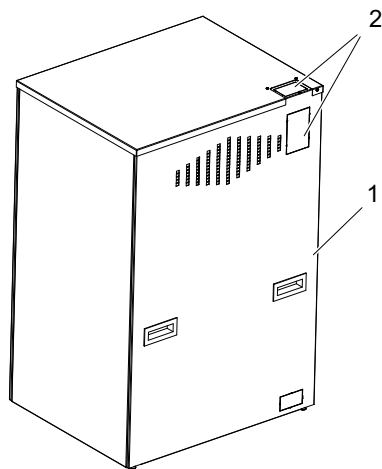

Fig. 4-33 System cabinet
2. Remove one of the cable outlet covers (2). Which outlet to use depends on the installation of the cables from the overhead tube crane, table, and wallstand, see **Fig. 4-33**.